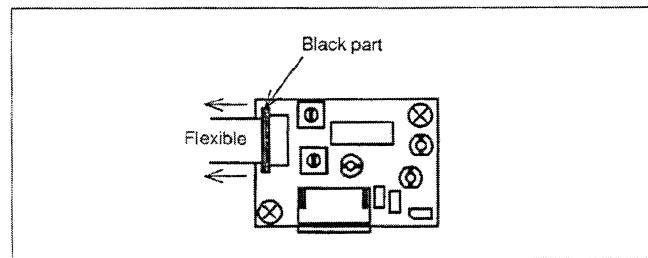

Fig. 5
## Removing the preamplifier (Fig.5 and 6)
1. Slide the black part of the connector, which secures the preamplifier's flexible cable, in the direction as shown in Fig.5 to loosen the flexible cable clamp.